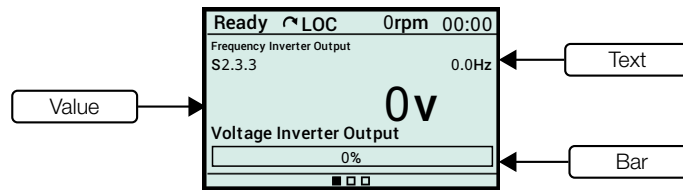

Figure 8.12: Inline visualization
- Line:** In one line, it is possible to display a reading variable in the format **text, value or bar**. The Figure 8.12 shows an example with the 3 formats.